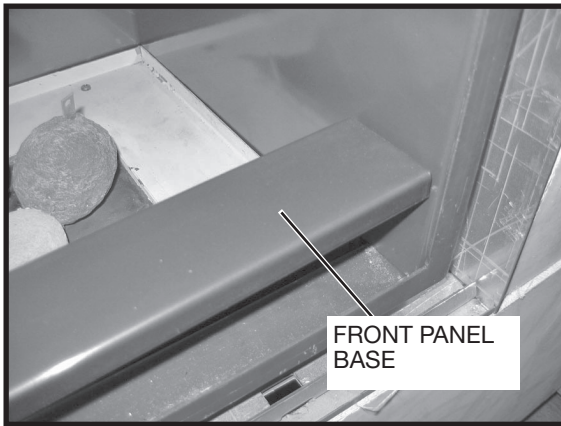

Figure 61: Front panel base.
1. Remove front panel base (Figure 61). Also remove rear panel base if Black Diamond Burner is fitted.